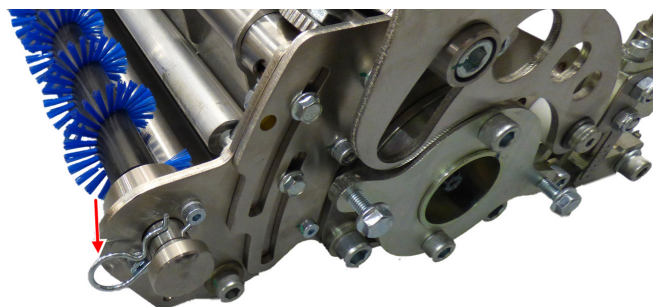

Figure 28
1. Remove R-clip to access nuts behind it. See Figure 28.
- Remove R-clip from bolt that secures brush, refer to Figure 28.